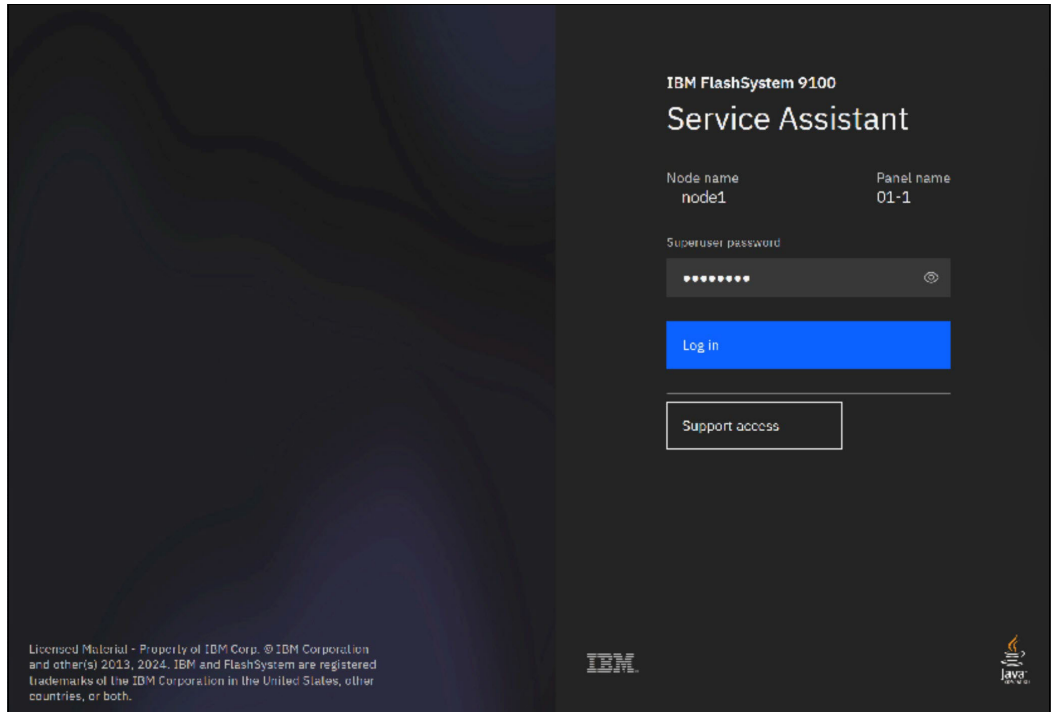

Figure 2-9 Logging in to Service Assistant by way of the technician port
- The window that is used to log in to Service Assistant opens (Figure 2-9). This window is the first step of initializing the system. Enter the default superuser password (passw0rd) and click **Log in**.